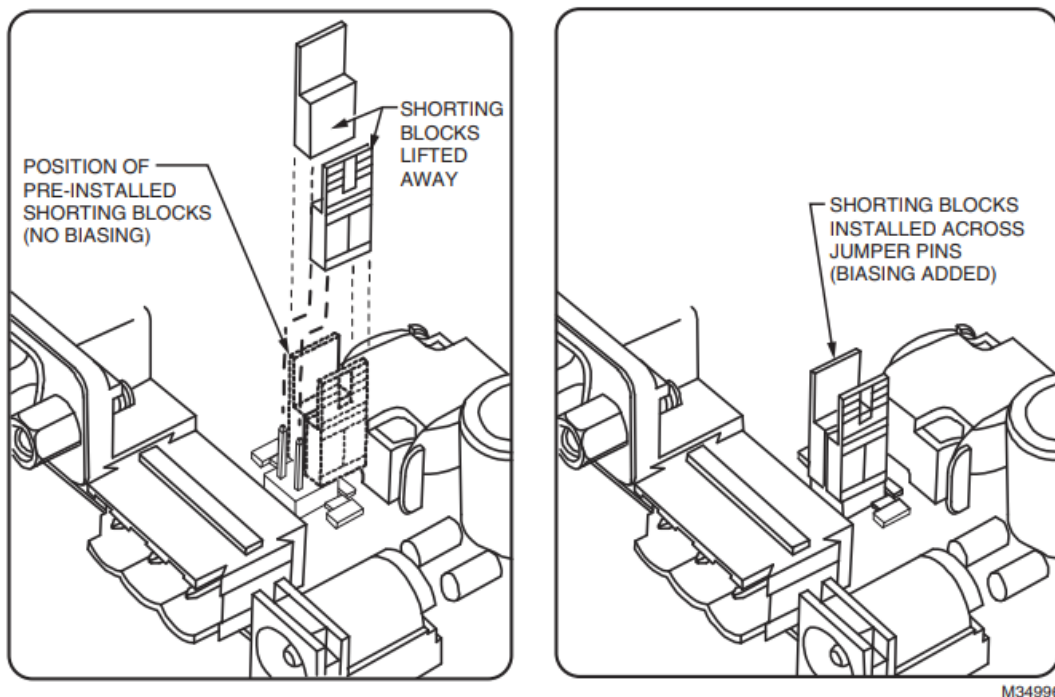

Fig. 8. Install shorting blocks across both sides of jumper block to add RS-485 bias.
1. Locate the four jumper pins behind the RS-485 port, with 2-pin shorting blocks installed on one pin each. See Fig. 8.
2. To add biasing, remove and replace both shorting blocks back onto the jumper pins, as shown in Fig. 8.